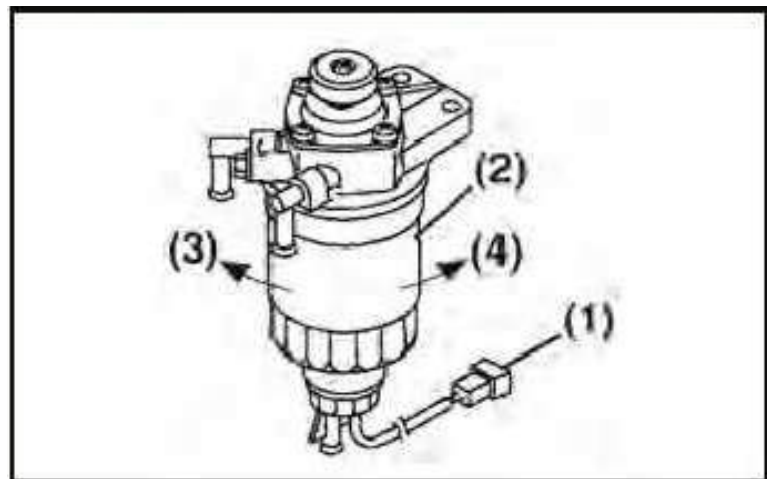

Figure 5-14
3. Disconnect the fuel filter sensor connector (**Figure 5-14, (1)**).
6. Remove the fuel filter (**Figure 5-14, (2)**) by turning it to the left (Figure 5-14, (3)). Wipe up all spilled fuel.
17. Install the new fuel filter (**Figure 5-14, (2)**) by turning it to the right (**Figure 5-14, (4)**) until it contacts the mounting surface. Tighten one additional turn.
19. Reconnect the fuel filter sensor connector (**Figure 5-14, (1)**).